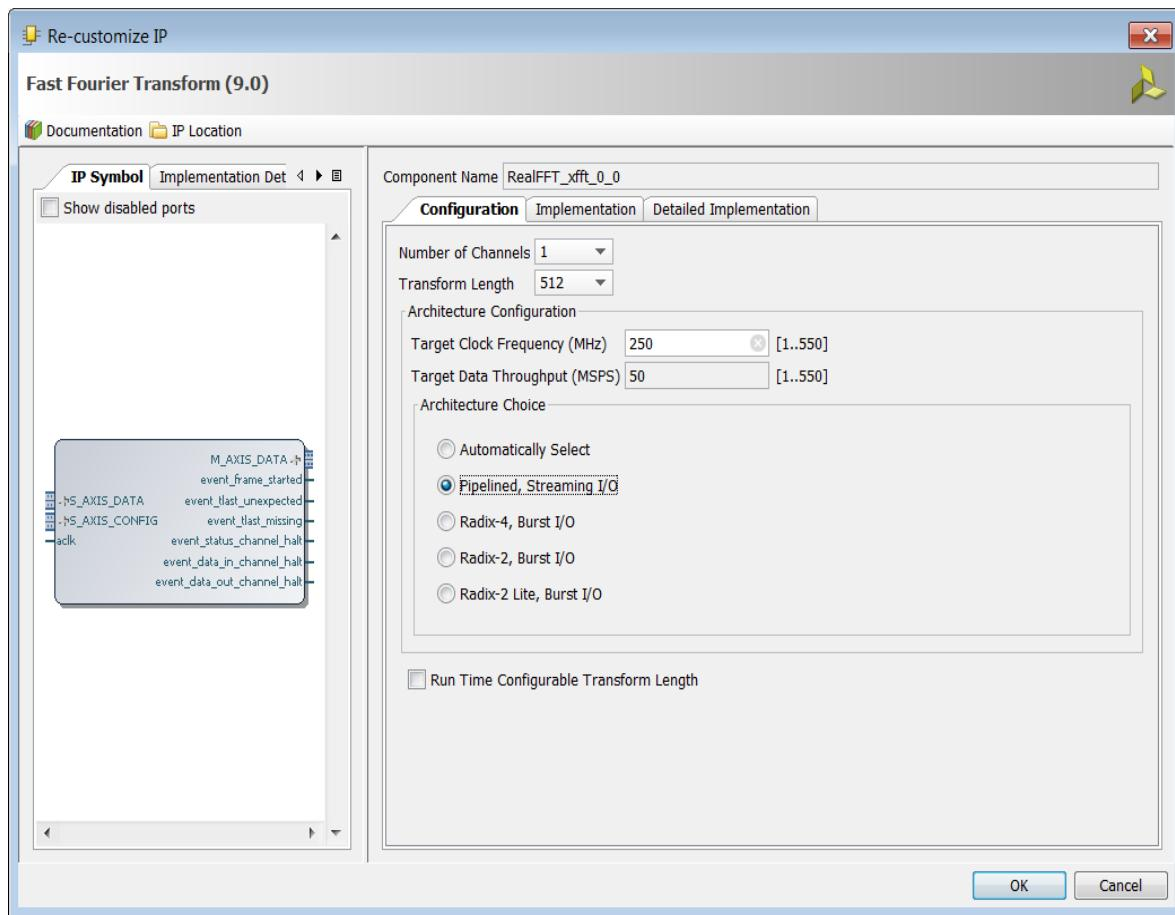

Figure 9-16: Xilinx FFT Configuration
4. On the **Configuration** tab (Figure 9-16):